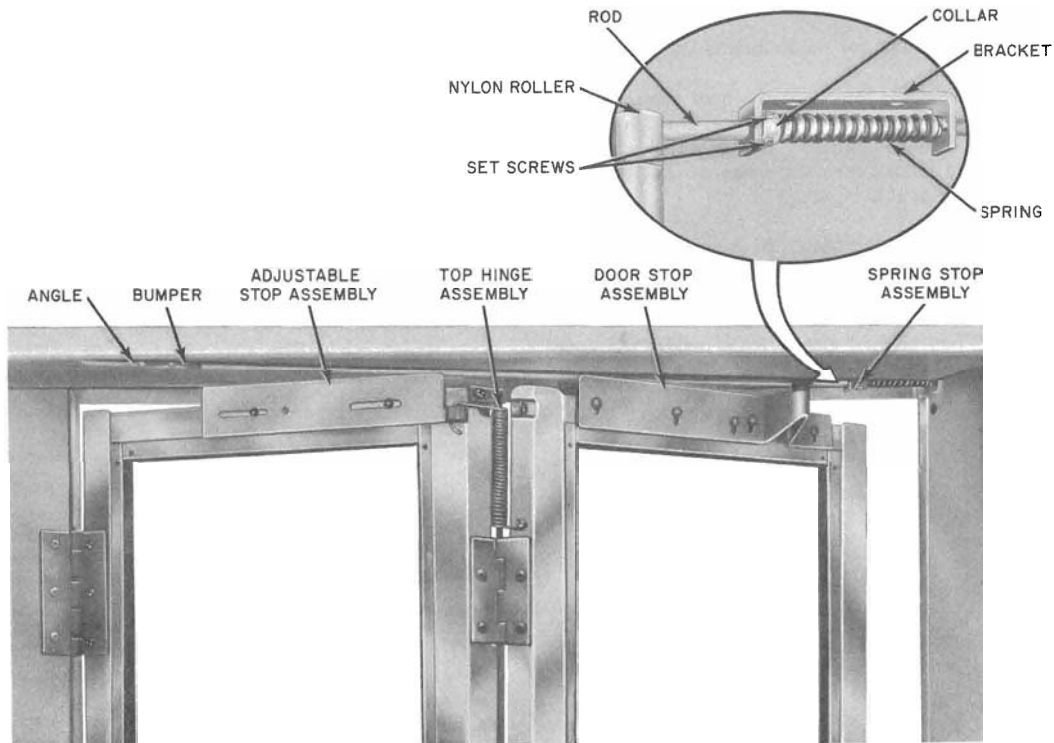

Fig. 24—KS-16797 Booth Door Adjustment
**4.06** Door adjustments (Fig. 24) should be made in sequence as follows: